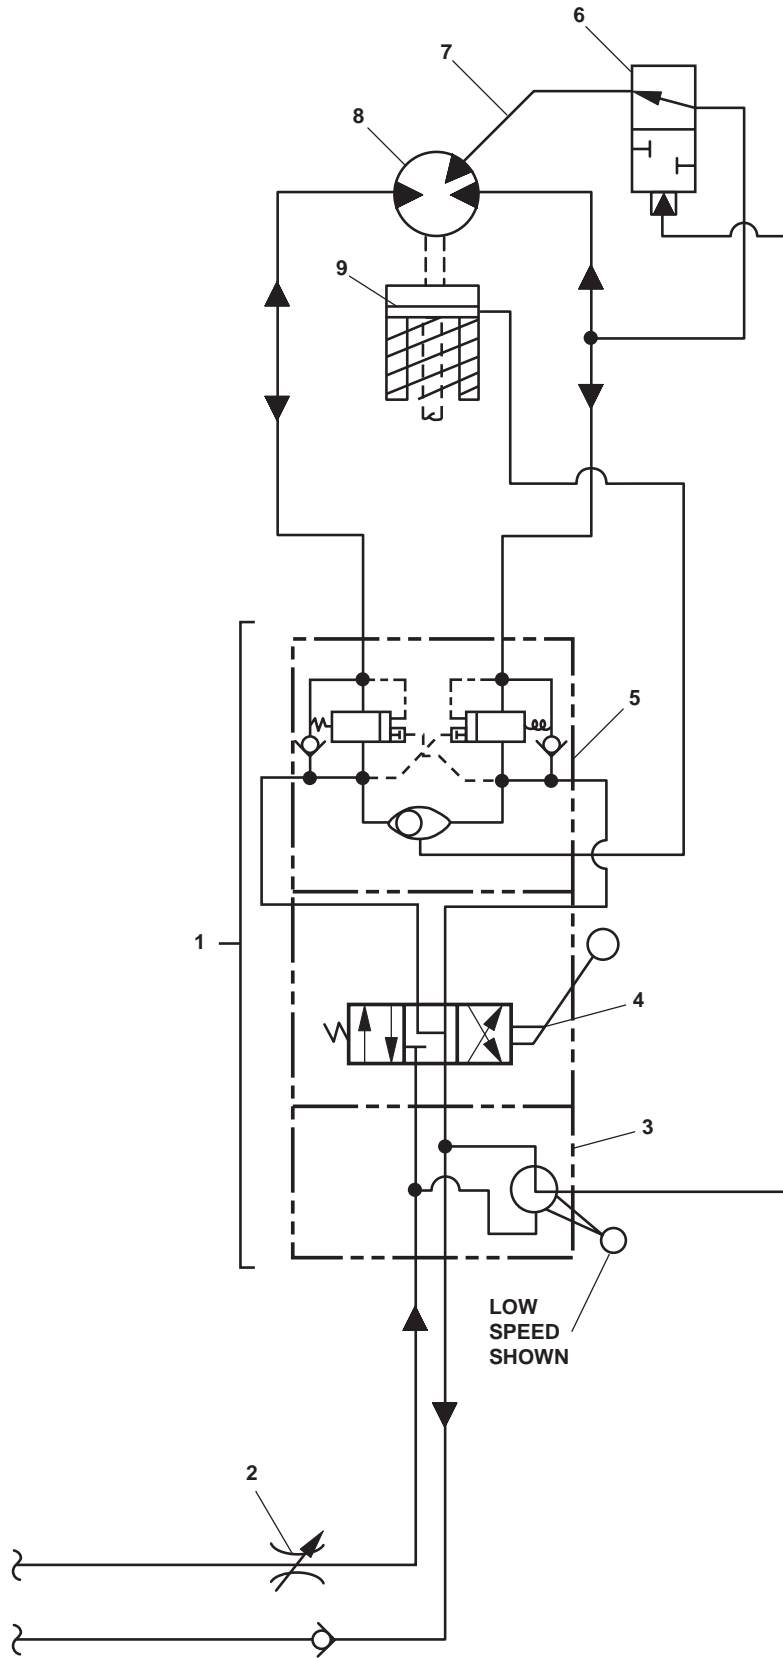
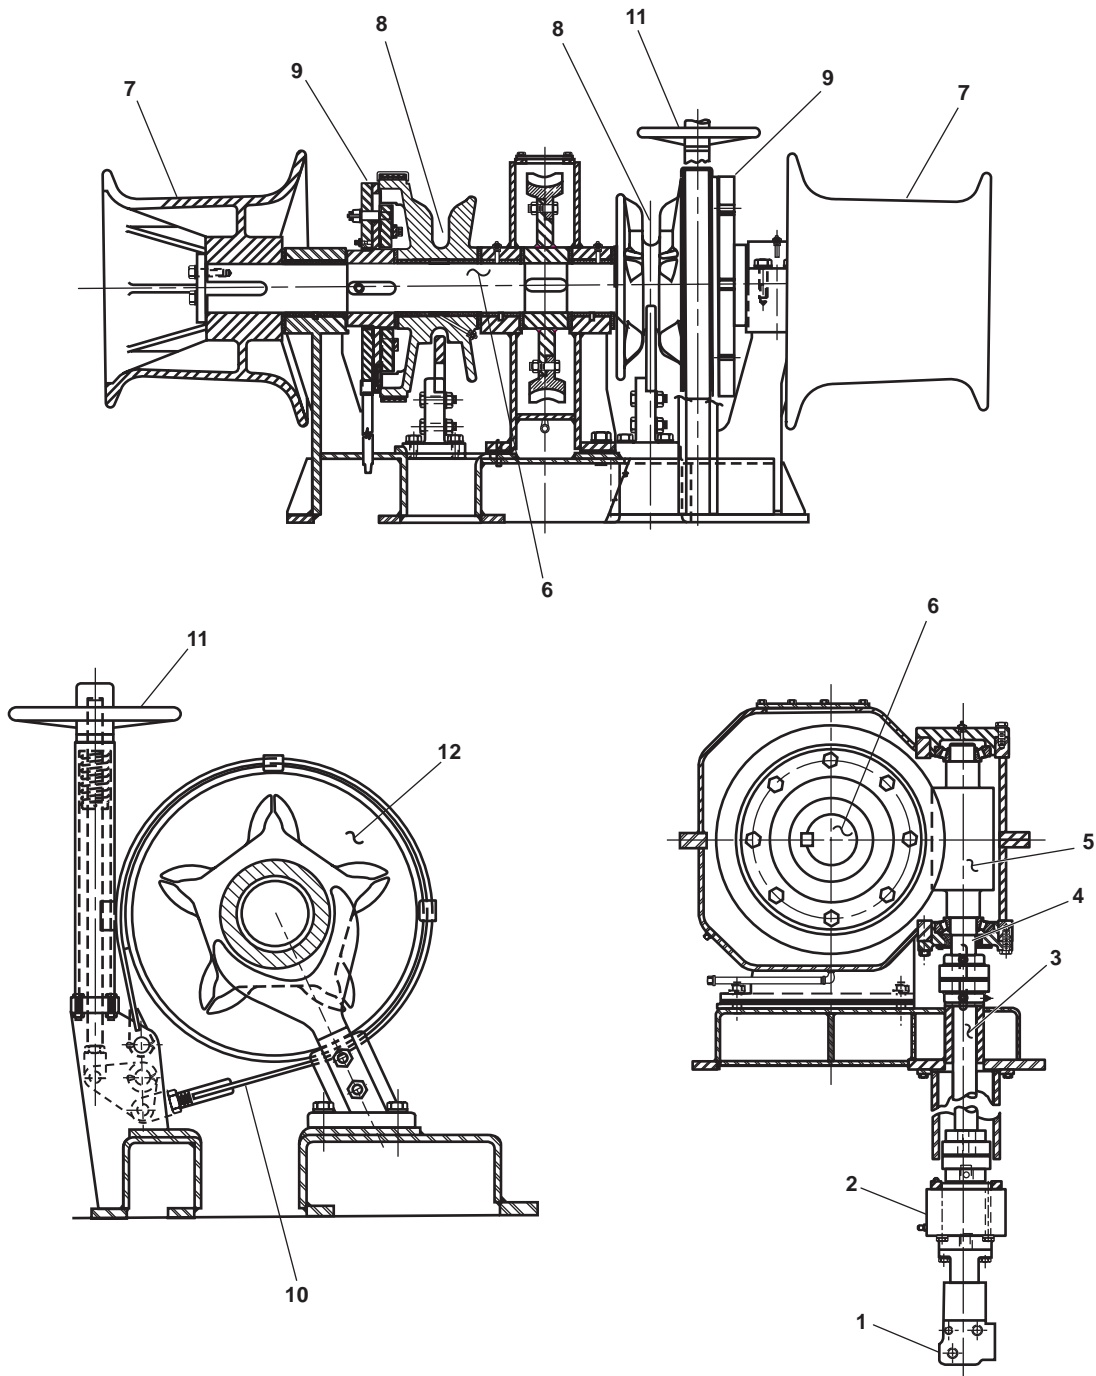

Figure 8. Anchor Windlass Hydraulic System
Figure 9. Anchor Windlass Mechanical Operation
Supply pressure comes into the anchor windlass control valve (figure 8, item 1) through a flow control valve (figure 8, item 2). The flow control valve is set to permit 11 gal/min (42 L/min) to enter the anchor windlass control valve. This prevents overspeed operation of the anchor windlass.
The anchor windlass control valve (figure 8, item 1) is comprised of a HIGH/LOW speed selector valve (figure 8, item 3), a directional control valve (figure 8, item 4), and a counterbalance valve (figure 8, item 5).
When the HIGH/LOW speed selector valve (figure 8, item 3) is in the LOW speed position, pressure is removed from the two speed pilot valve (figure 8, item 6) that removes pressure from the pilot port (figure 8, item 7) of the anchor windlass motor (figure 8, item 8). When pressure is removed from the pilot port, the anchor windlass motor is in the Low Speed, High Torque (LSHT) mode. When the HIGH/LOW speed selector valve is in the HIGH position, pressure is applied to the two speed pilot valve that supplies pressure to the pilot port of the anchor windlass motor. When pressure is applied to the pilot port, the anchor windlass motor shifts into High Speed, Low Torque (HSLT) mode. In this mode, the anchor windlass motor speed is roughly doubled and torque roughly halved.
The directional control valve (figure 8, item 4) permits the operator to choose the direction of rotation of the anchor windlass as well as its speed of rotation. When the directional control valve (figure 8, item 4) is in the NEUTRAL position, the supply line is CLOSED, and no supply flow is permitted to enter the anchor windlass motor (figure 8, item 8). At the same time, both sides of the anchor windlass motor are OPEN to the return piping. When the directional control valve (figure 8, item 4) is shifted toward the return spring, the supply is routed to the right side of the anchor windlass motor and the return flow comes from the left side of the anchor windlass motor, causing motor rotation. When the directional control valve position is reversed, flow to the anchor windlass motor is reversed, reversing the direction of anchor windlass motor rotation.
A counterbalance valve (figure 8, item 5) is installed between the directional control valve (figure 8, item 4) and the anchor windlass motor (figure 8, item 8). The counterbalance valves act as a hydraulic brake to prevent the anchor windlass from overrunning the anchor windlass motor. The counterbalance valves also ensure that the anchor windlass motor will only turn when pressure is applied from the directional control valve.
A fail safe brake (figure 8, item 9) is fitted between the anchor windlass gear train and the anchor windlass motor (figure 8, item 8). This fail safe brake is a spring-applied, pressure-released design. In this design, an internal spring assembly applies the fail safe brake until hydraulic pressure is applied to release it. In the anchor windlass circuit, hydraulic pressure is supplied to the fail safe brake assembly any time that the directional control valve (figure 8, item 4) is moved away from the NEUTRAL position. When the directional control valve is returned to the NEUTRAL position, the pressure is removed from the fail safe brake and the springs apply the brake, providing a mechanical braking action to the anchor windlass motor output shaft.
Output from the anchor windlass motor (figure 9, item 1; figure 8, item 8) goes through the fail safe brake (figure 9, item 2; figure 8, item 9) and to the driveshaft (figure 9, item 3). The driveshaft turns the input shaft (figure 9, item 4) of the worm gear (figure 9, item 5) that rotates the anchor windlass main shaft (figure 9, item 6). The main shaft is permanently fixed to the gypsy heads (figure 9, item 7), therefore the gypsy heads rotate whenever the anchor windlass motor (figure 9, item 1; figure 8, item 8) rotates. The wildcats (figure 9, item 8) can be connected to the main shaft via a dog clutch (figure 9, item 9). The dog clutch permits the gypsy heads to rotate separately from the wildcats, thus the lines can be handled by the gypsy heads without disturbing the anchor chains.
Manual braking is provided for the wildcats (figure 9, item 8) by band brakes (figure 9, item 10). Each wildcat is provided with a band brake providing individual control for each anchor chain. The band brakes are actuated by turning the brake handwheel (figure 9, item 11). The brake handwheel tightens the brake band around the wildcat drum (figure 9, item 12), slowing or stopping wildcat rotation.